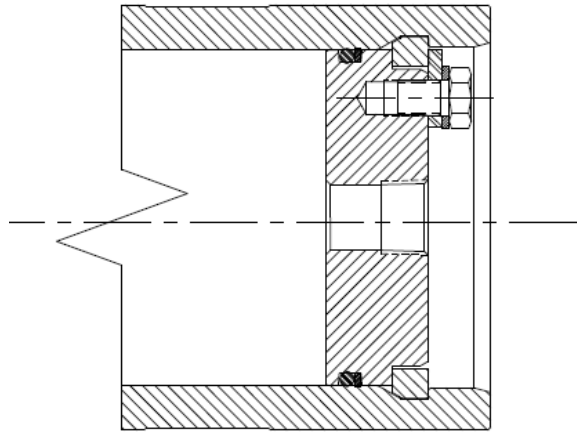

Figure 7 – Typical End-Cap with Segment Rings Sealing Arrangement
4. Install the seals onto the end-caps. The most common sealing arrangement for the end-caps is an o-ring with a back-up ring. The o-ring should always be positioned on the pressure side of the end-cap (Closest to the installed piston). And, the backup ring should always be positioned closest to the end-cap segment ring groove (See Figure 7 below).